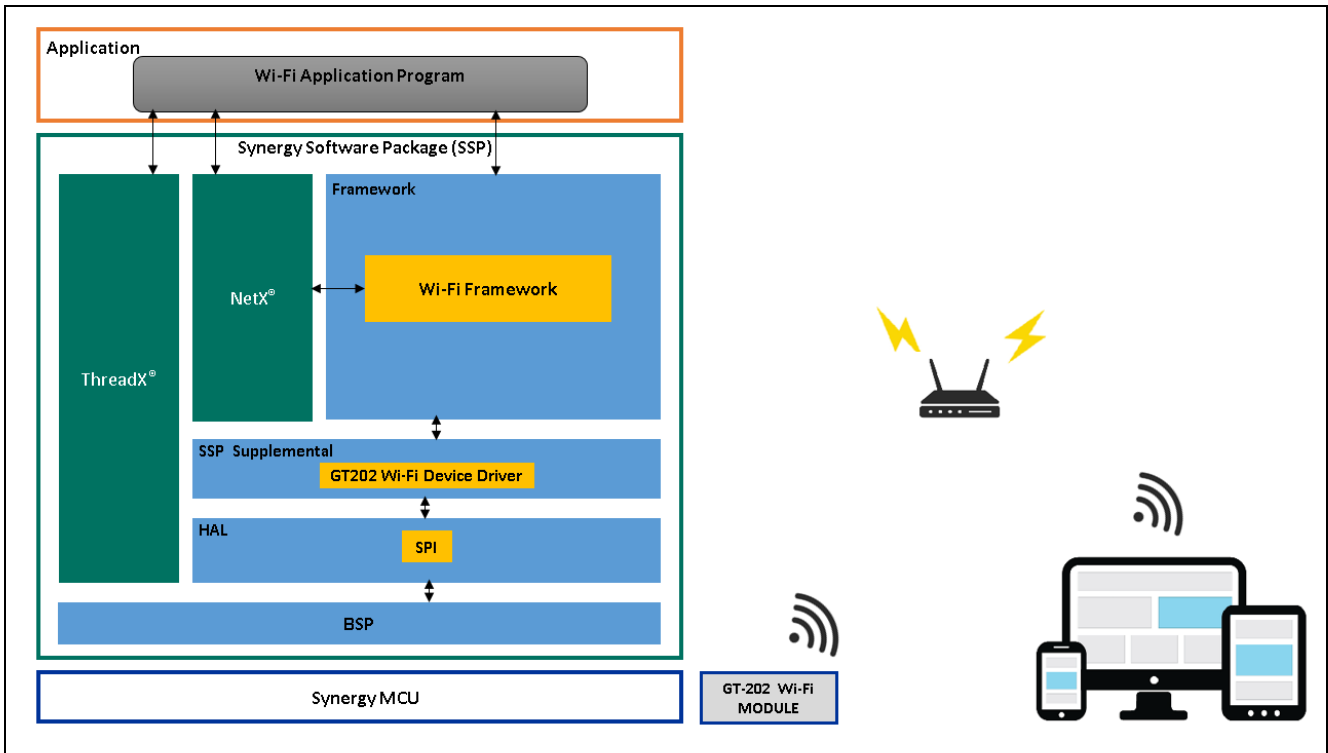

Figure 2. Synergy Wi-Fi Application Project Components
The high-level architecture of the Wi-Fi application is shown in Figure 2. The Wi-Fi application runs in client mode. In this case, it connects to the Access Point (AP) or Router, gets the leased IP address from the AP/Router, and then becomes available for any IP application that uses TCP or UDP.